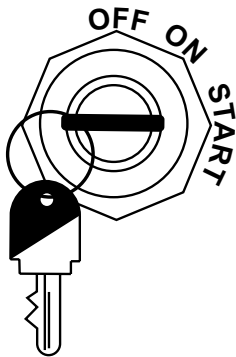

Figure 15. Engine ON/OFF Switch (Electric Start)
- Place the ignition key (Figure 15) in the **START** position and hold it until the engine starts. When the engine starts, release the key, allowing it to return back to the **ON** position.